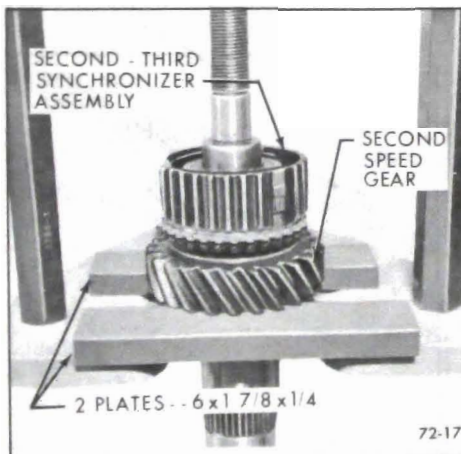

Figure 72-17 - Removing Second-Third Speed Synchronizer Assembly
8. Support second speed gear on press plate using two (2) pieces of stock 6x1-7/8x1/4. See Figure 72-17. Remove second-third speed synchronizer assembly and second speed gear.